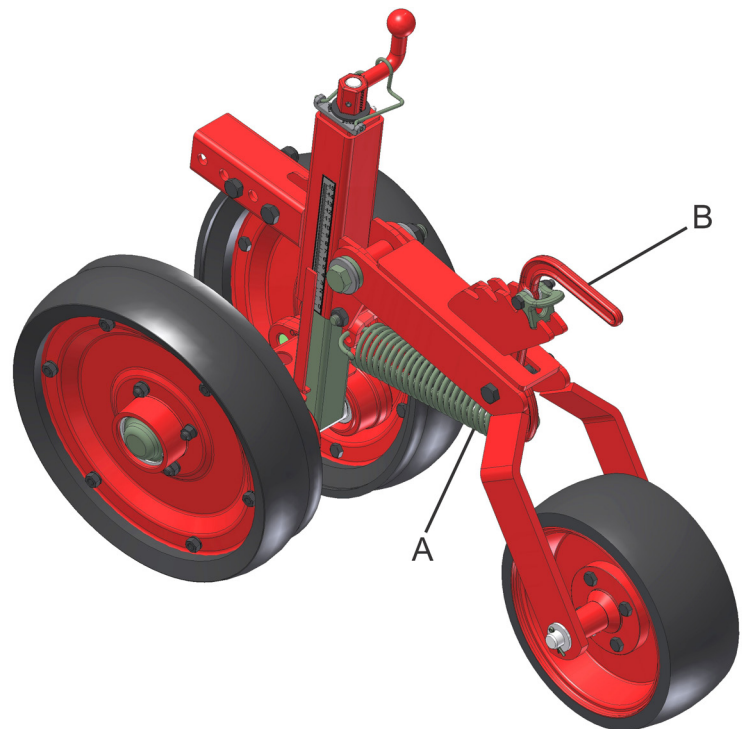

fig. 27
To adjust the pressure of the compaction wheel, adjust the spring pressure (A) (fig. 27) move the lever (B). The higher the spring pressure, the greater the pressure exerted under the seed.
**Make sure that the lever (A) (fig. 27) is in the same position in all planting units.**